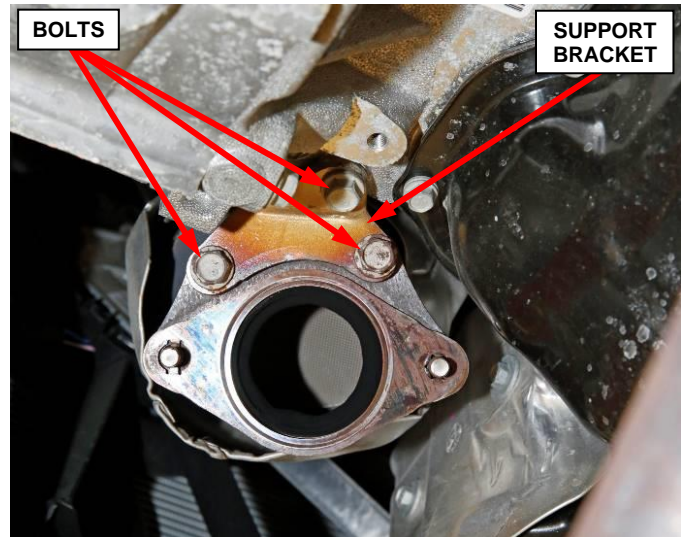

Figure 4 – Maniverter Support Bracket
8. Remove the and **SAVE** the bolt securing the maniverter lower support bracket to the engine oil pan (Figure 4).
9. Remove the and **DISCARD** the two bolts securing the maniverter lower support bracket to the maniverter and **DISCARD** the support bracket (Figure 4).